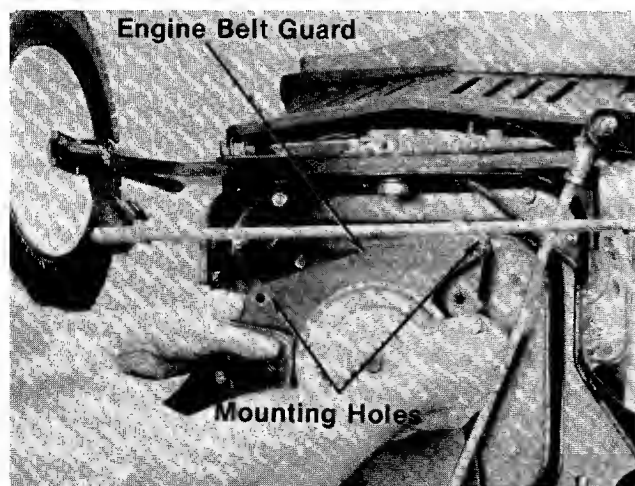

**FIGURE 36.**
6. Remove the front four deck links from the cutting deck. See figure 36.
7. Remove the belt guards from both deck pulleys. See figure 36.
7. Tip the deck down as shown in figure 36.